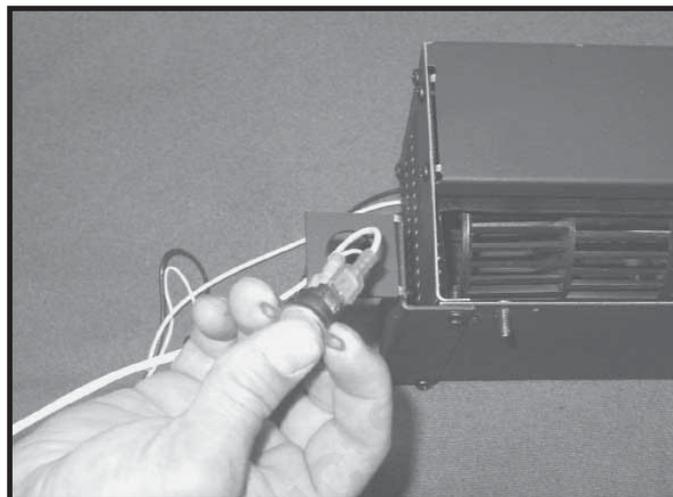

Figure 29
3. Run the white wire leads through the snap disc opening on the fan bracket. Connect the wire leads to the snap disc. See Figure 29.